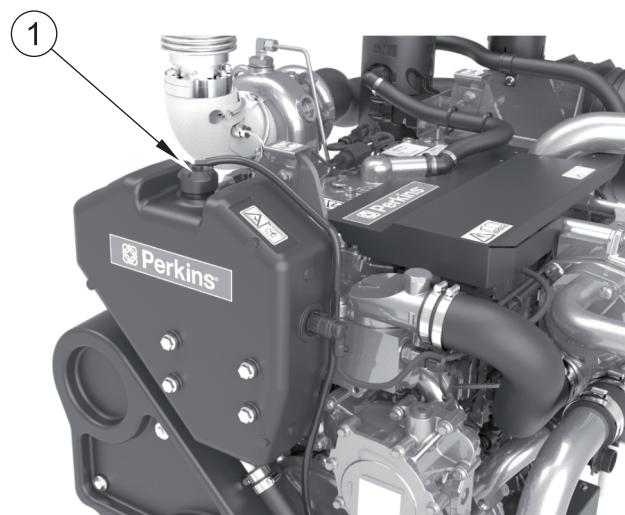

Figure 1
1. Remove the filler cap (figure 1 item 1) of the header tank and slowly fill the coolant system until the coolant level is just below the pipes inside the header tank.
1. Loosen the coolant filler cap on the header tank (figure 1 item 1).